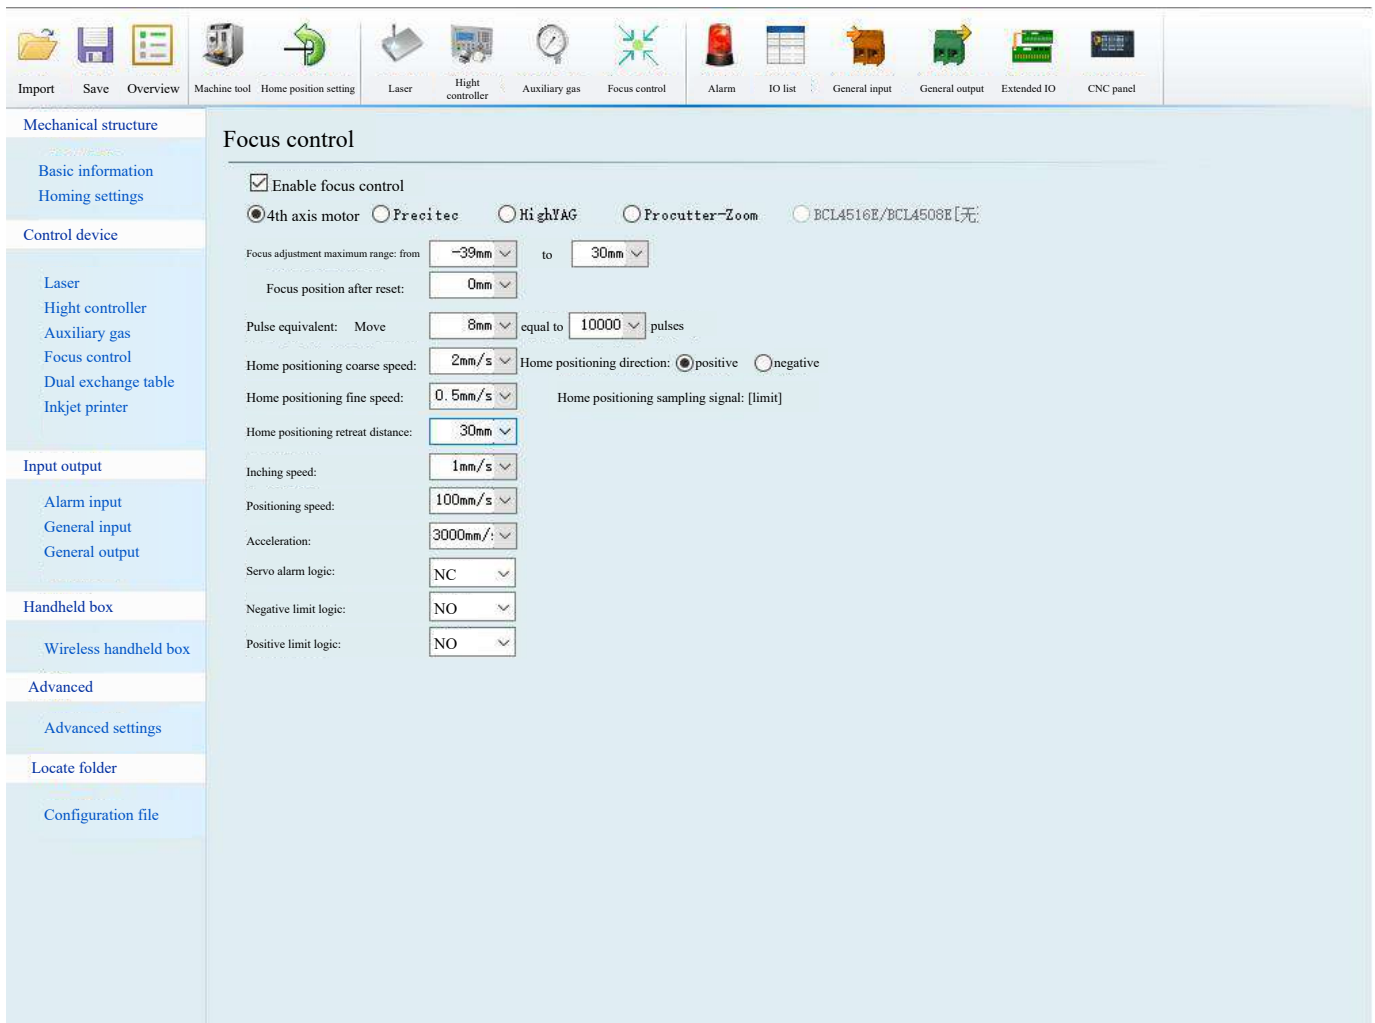

Figure 2.3
- ① Open the software configuration platform, set the focus retraction distance to 30mm (can be slightly adjusted according to the actual conditions), to align the collimation focus at the zero scale position (as shown in Cypcut, Figure 2.3).